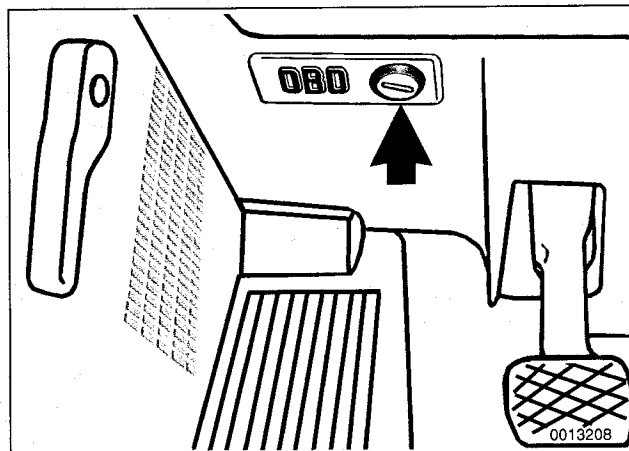

Fig. 1. OBD II diagnostic connector location.
- *The 16-pin OBD II diagnostic connector is located on the lower left dash panel. See Fig. 1.*
- The 16-pin OBD II diagnostic connector is located on the lower left dash panel. Refer to Fig. 1.